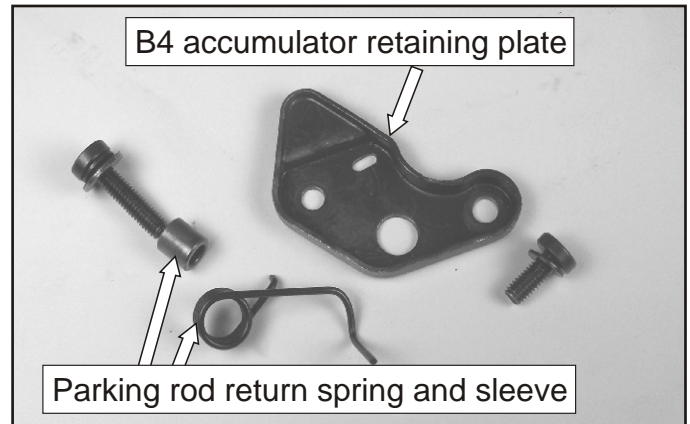

Figure 58
15. Remove the two B4 accumulator retaining plate bolts and plate, using a 30 torx bit, as shown in Figure 57. The bolt on the left anchors the sleeve and parking rod return spring, as shown in the close-up in Figure 58. *Note: The bolt on the left is 22mm long. The bolt on the right is 13.5mm long. CAUTION: B4 accumulator is spring loaded in your direction.*